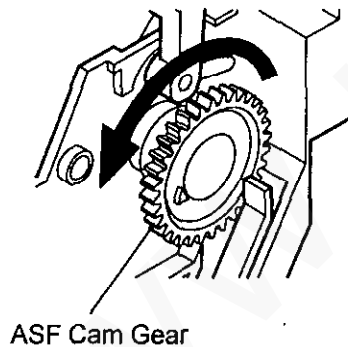

Figure 3 Rotate ASF Cam Gear
2. Rotate the ASF Cam Gear until the ASF Trays are in the down position and the ASF Cam Gear is as shown (Figure 3).